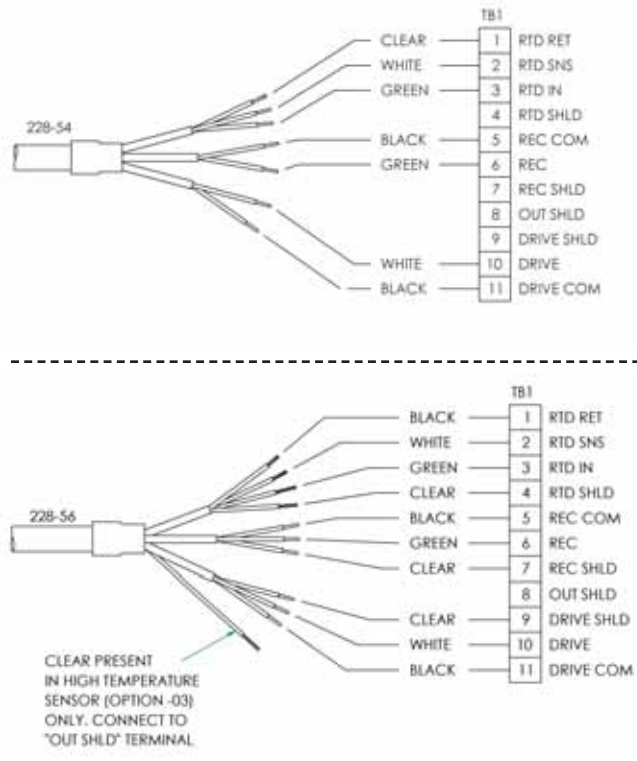

FIGURE 5. Wiring 228-54 and 228-56 sensors to Model 1056 and 56 analyzers
6. Connect the other end of the cable to the analyzer. See the wiring diagrams in Figures 5 through 10. For cable PN 23294-00 follow the wiring for the 228-54 sensor. For cable PN 23294-04 and 23294-05, follow the wiring for the 228-56 sensor, **with the following exception:**